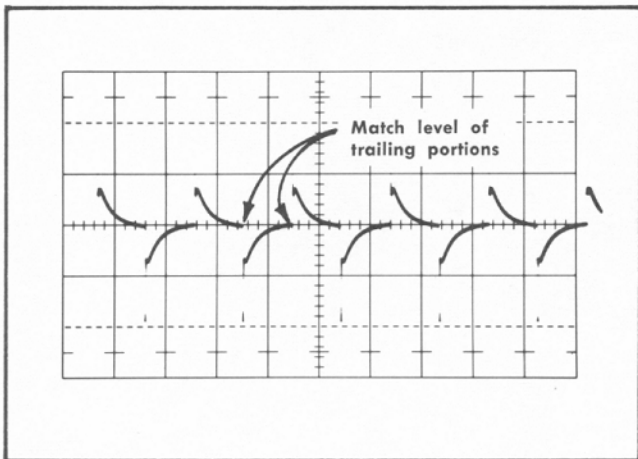
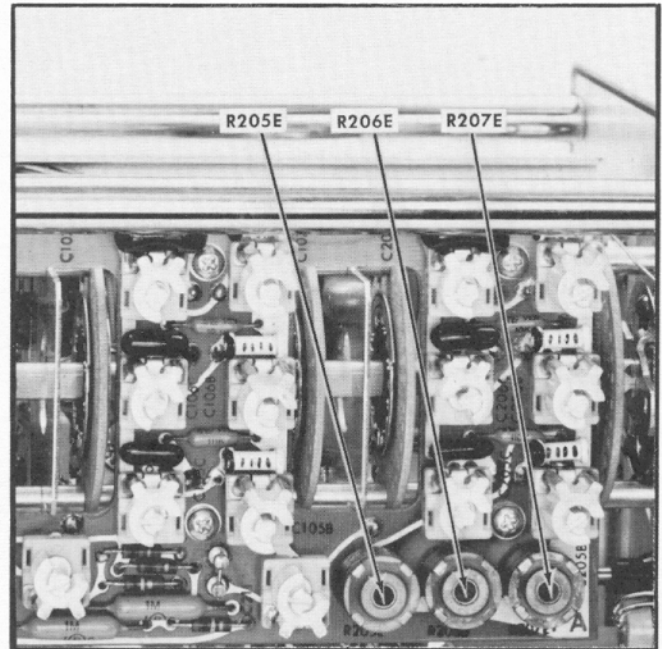

Fig. 6-33. Typical 1-kHz null display obtained when R205E is adjusted properly.
Fig. 6-34. Location of step 21 adjustments
e. Check and adjust for optimum differential balance according to the information given in Table 6-3. Ignore the spikes on the waveform. The trailing portion of the cycles must match each other. Fig. 6-33 shows a typical display obtained when R205E is adjusted properly. The displays for the other positions of the VOLTS/CM switch will appear similar. See Fig. 6-34 to locate the adjustments.